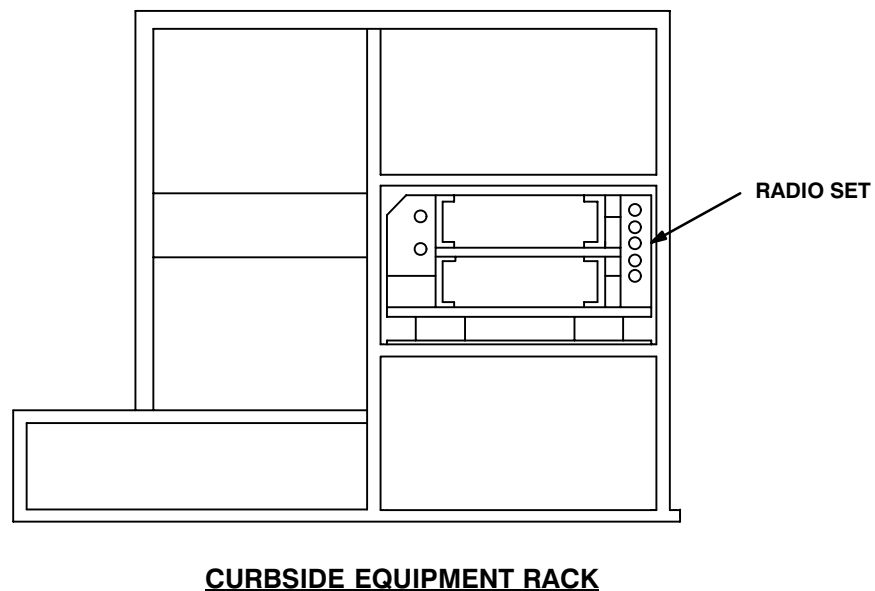

Figure 5-1 (2). MK and Radio Installation: Radio Equipment Locations
5.1 Installation of Antenna AS-3900/VRC (antenna). See figure 5-1 (1) for locations.